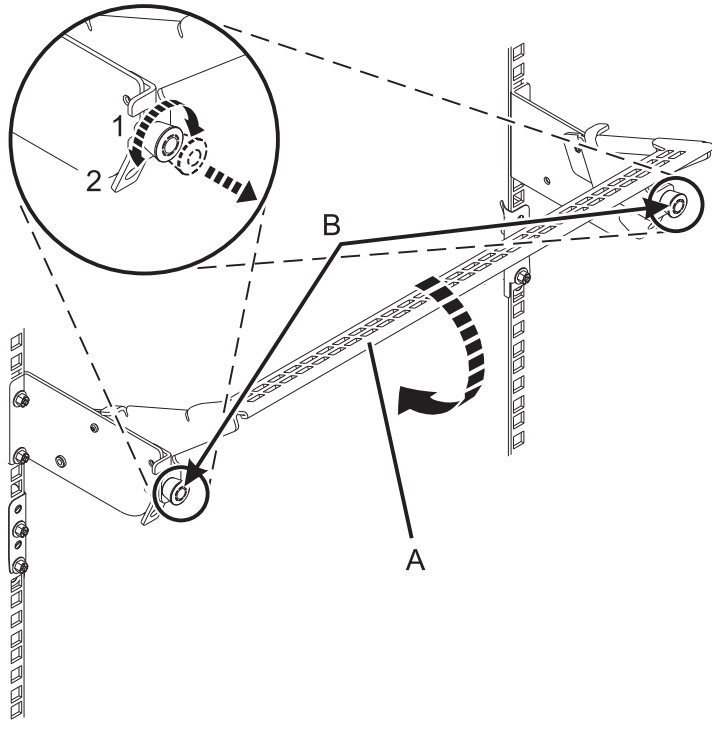

Figure 79. Placing the cable management bracket in the operating position
3. Put the cable management bracket in the operating position. See Figure 79 on page 75.